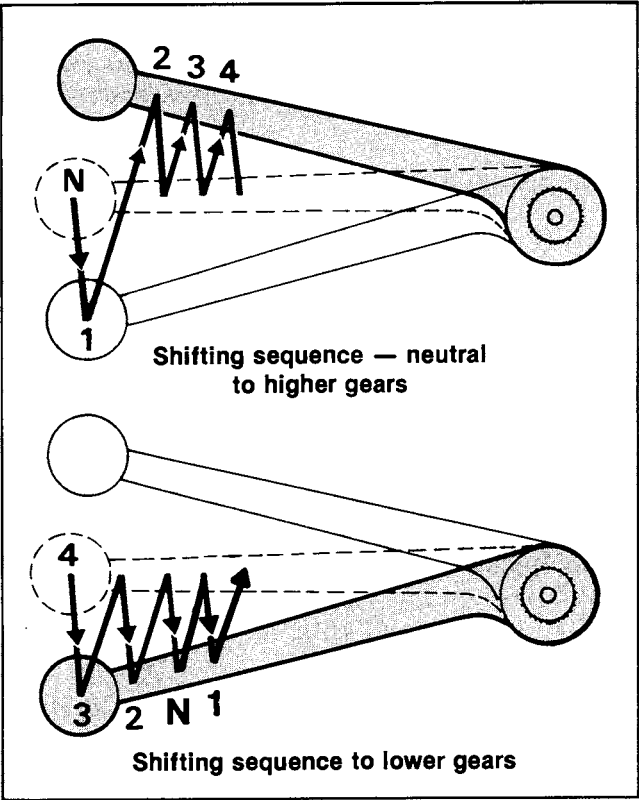

Figure 20. Shifting Sequence — 4-Speed
See Figure 2. To start moving with motorcycle upright and engine idling, pull the clutch lever (7) to fully disengage clutch. See Figure 20. Push shifter lever down firmly but gently to end of its travel to engage first gear. Then release the clutch lever slowly to engage the clutch and at the same time, open throttle gradually.